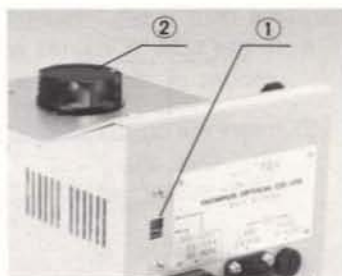

Fig. 4
- 1) Ascertain that the line voltage selector switch ① is set to conform with the local mains voltage. (Fig. 4). If not, set it correctly.
- 2) Ascertain that the voltage adjustment knob ② is set at lowest voltage position, marked with (–), and turn on the ON-OFF switch.
- 3) Turning the voltage adjustment knob ② towards (+) increases voltage and the voltmeter LED lights up.